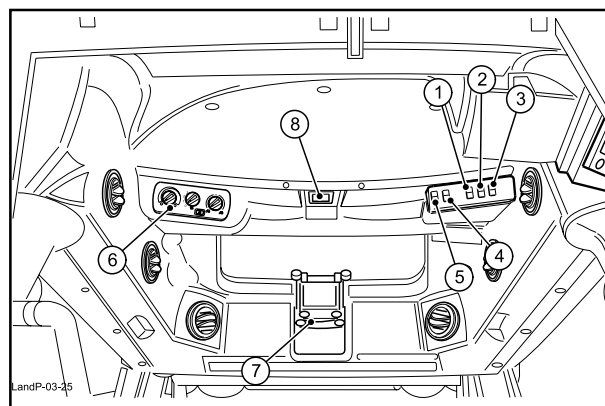

Fig. 3-25 Controls on cab roof
The cab can be equipped with additional front (1) and rear (3) work lights which notably increase the visibility during night work. The switches to operate the lights are on the cab roof (Fig. 3-25).